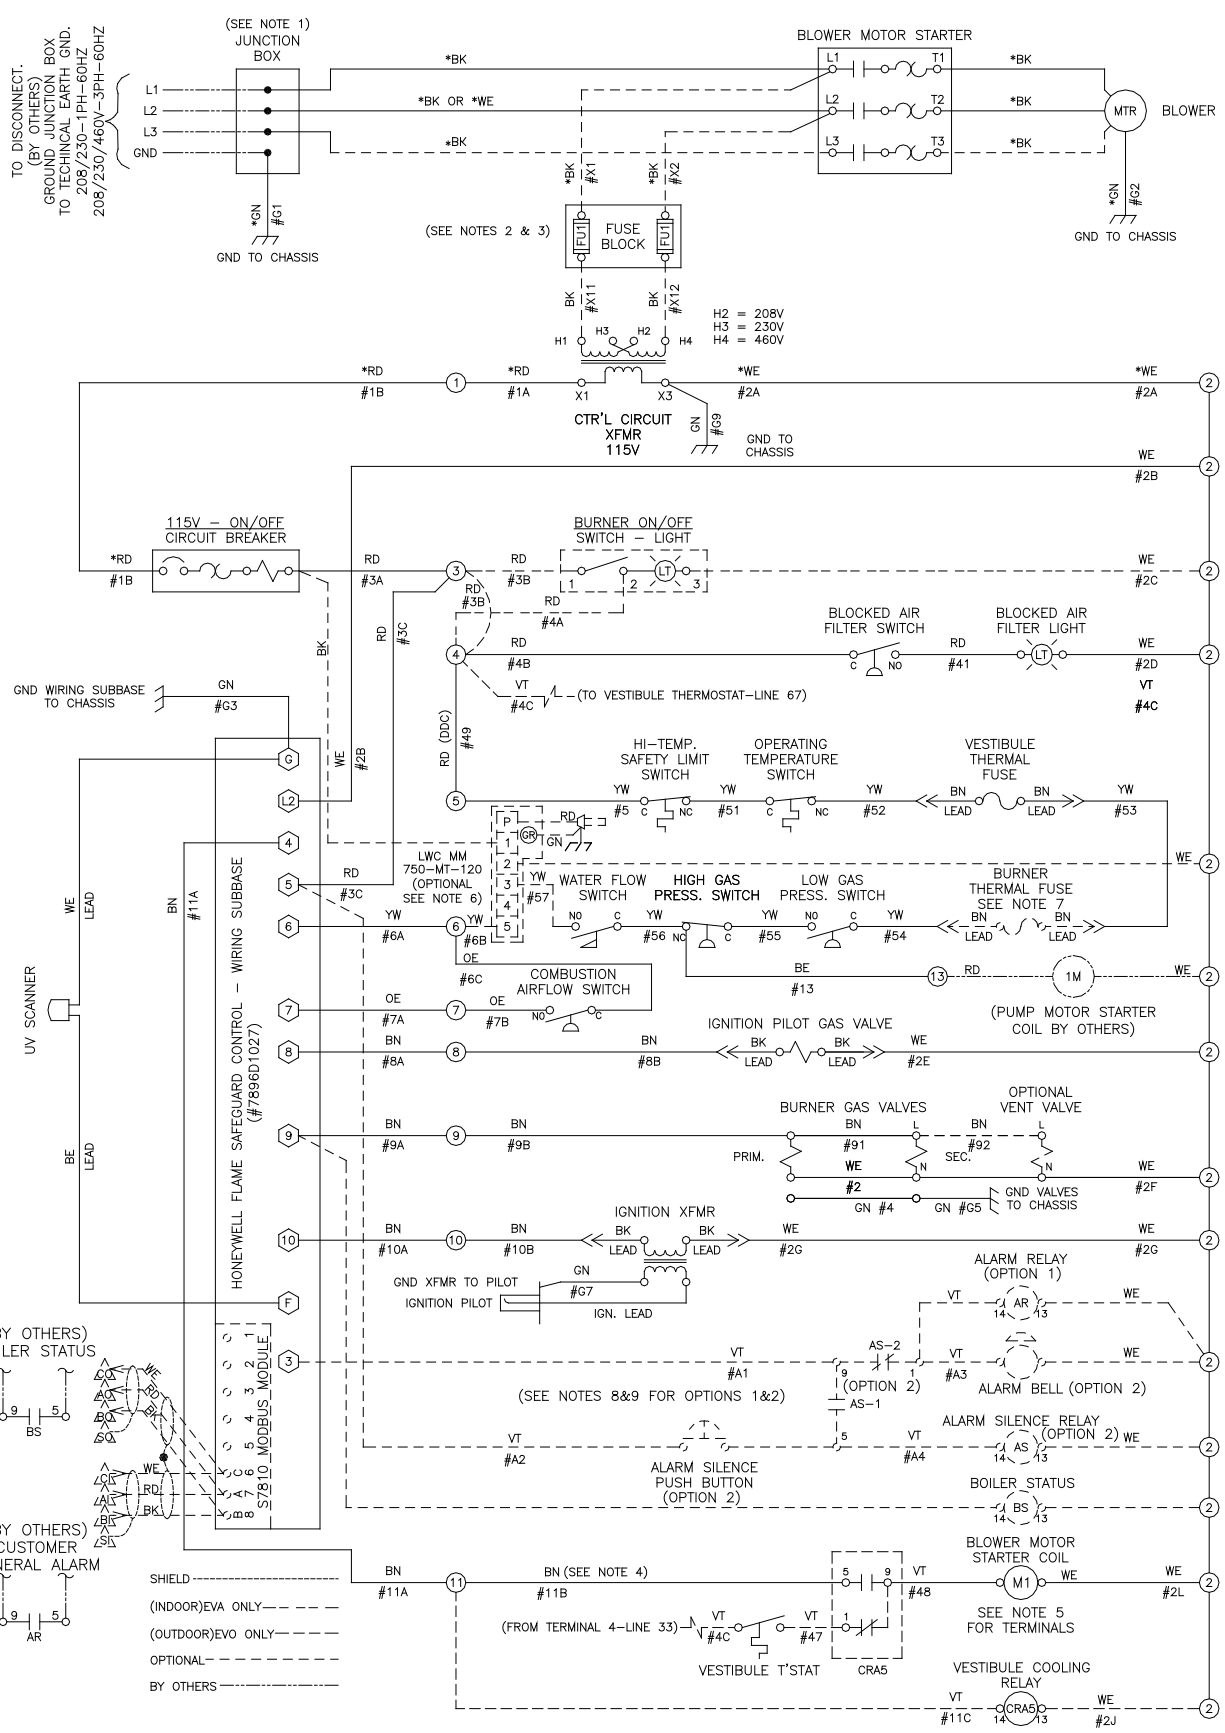

Figure 9a: Standard UL/FM/CSD-1 Wiring Diagram(on/off) EVO 500-2000
4. Remove factory supplied jumper wire from terminals 4 and 5. Connect field supplied safety limits or devices using proper terminals provided in boiler electrical cabinet. Refer to wiring diagram supplied with boiler for wiring information. Refer to Figures 9a-9c for typical wiring diagrams. Refer to Figure 1 for electrical requirements for boiler.